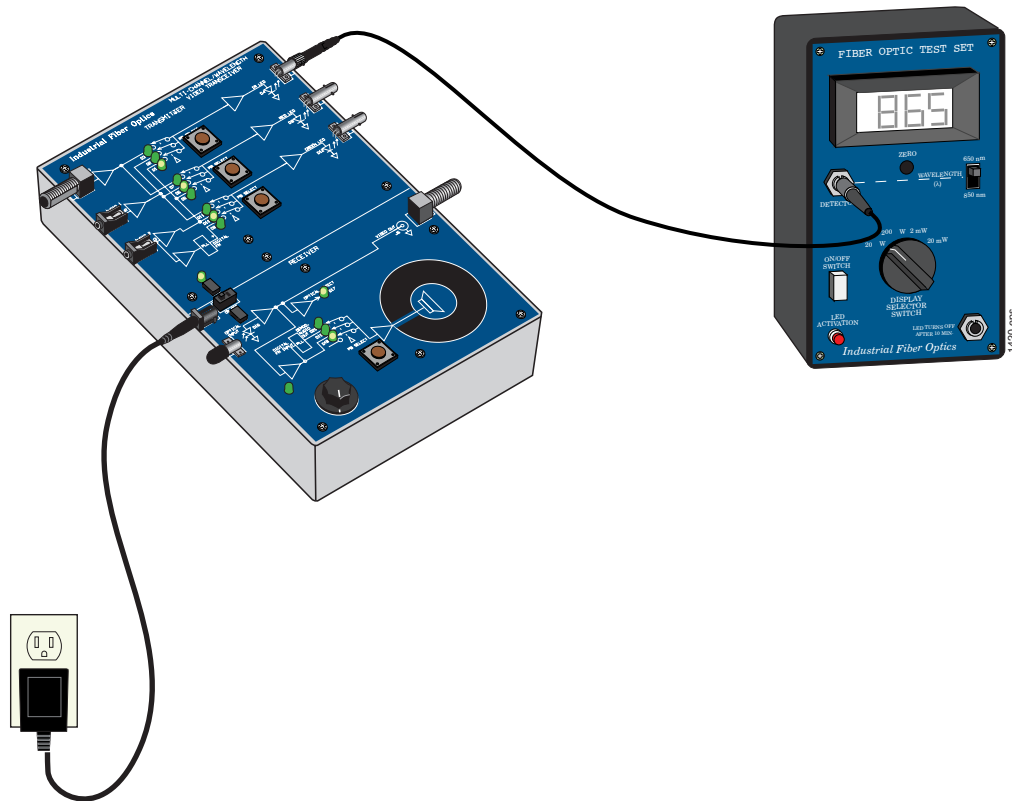

Figure 12. Transceiver connected to a 1-meter optical fiber to measure optical light output.
4. Attach the other end of the fiber cable to the DETECTOR receptacle on the Fiber Optic Test Set as shown in Figure 12.